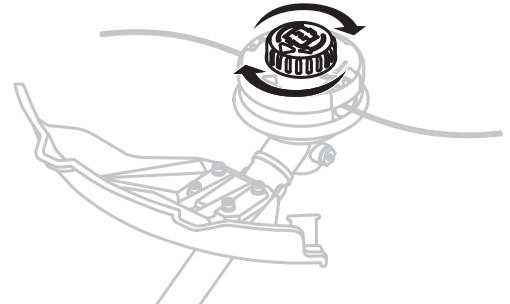

Fig. 1C
4. Hold the line cartridge with one hand and turn the bump knob counterclockwise with the other hand, until both ends are approximately 6 inches long (Fig. 1C).